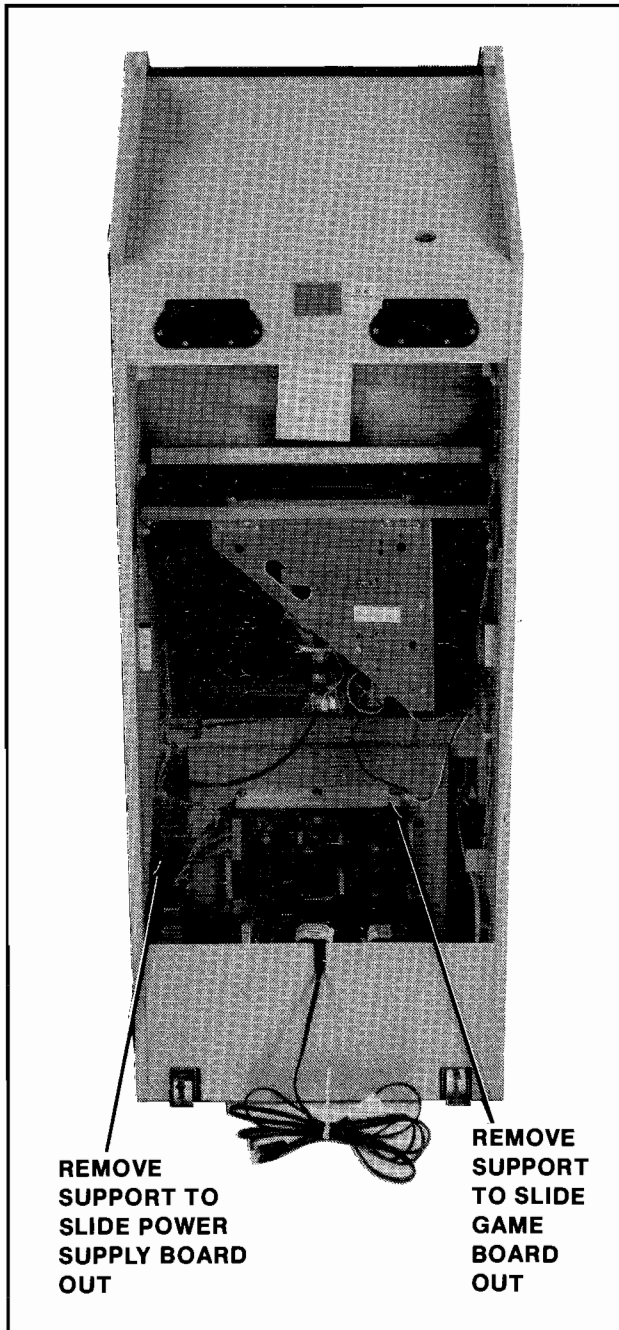

Figure 2-12 Removing P.C.B.'s — Upright
### 1. UPRIGHT MODEL: See Figure 2-12.
- Disconnect the power supply board from all its cabling, remove the P.C.B. supports indicated in Figure 2-12, and slide it out the back of the cabinet.